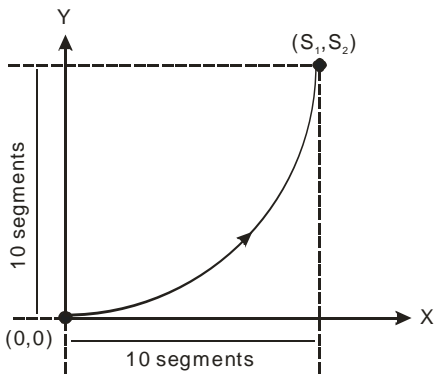
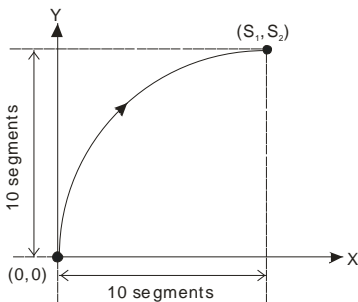
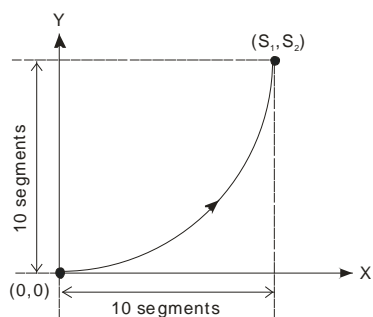

Figure 3
Figure 1
Figure 3
- The lower 16 bits of **S** (settings of direction and resolution): K0 refers to clockwise 10-segment (average resolution) output; K2 refers to clockwise 20-segment (higher resolution) output and a 90° arc can be drawn (see figure 1 and 2). K1 refers to counterclockwise 10-segment (average resolution) output; K3 refers to counterclockwise 20-segment (higher resolution) output and a 90° arc can be drawn (see figure 3 and 4).
4. The lower 16 bits of **S** (settings of direction and resolution): K0 refers to clockwise 10-segment (average resolution) output; K2 refers to clockwise 20-segment (higher resolution) output and a 90° arc can be drawn (see figure 1 and 2). K1 refers to counterclockwise 10-segment (average resolution) output; K3 refers to counterclockwise 20-segment (higher resolution) output and a 90° arc can be drawn (see figure 3 and 4).